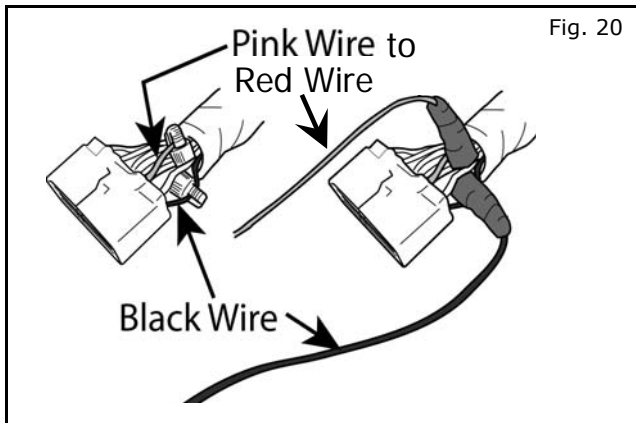

Fig. 20
- Attach the red wire from spoiler harness to the pink wire of the 20-way Inline Connector. (Fig. 20, 21 & 22)
- Attach the black wire from spoiler harness to the black wire of the 20-way Inline Connector. (Fig. 20, 21 & 22)